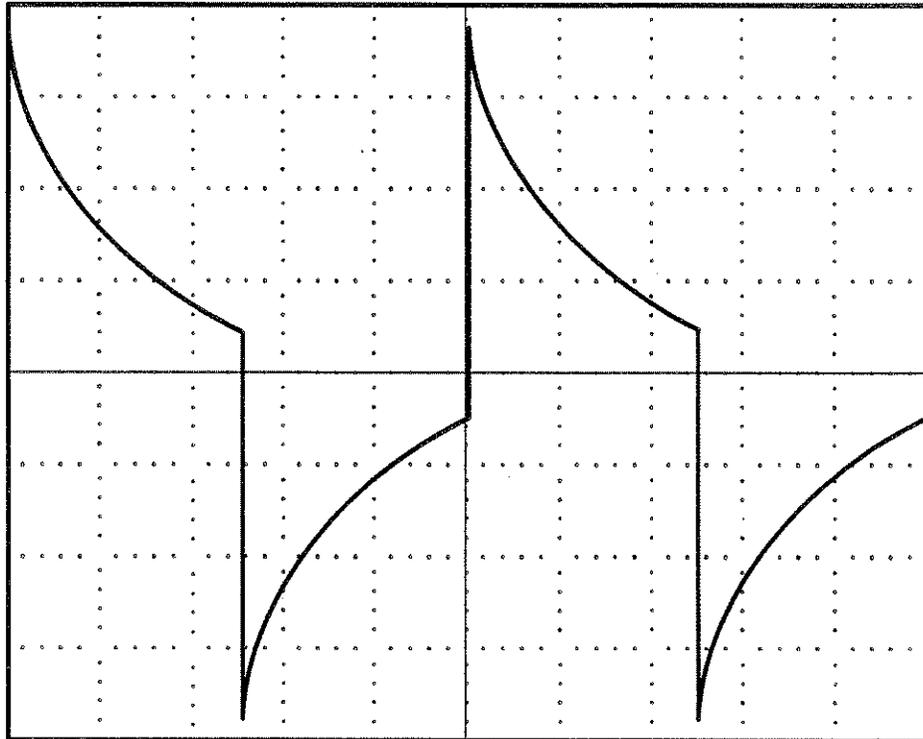

Figure 2-4 – Waveform with AC Coupling Selected
- The waveform is vertically centered on the screen (see Fig. 2-4).
- Step 4: Check that the waveform is vertically centered on the screen and that it resembles the waveform shown in Figure 2-4.